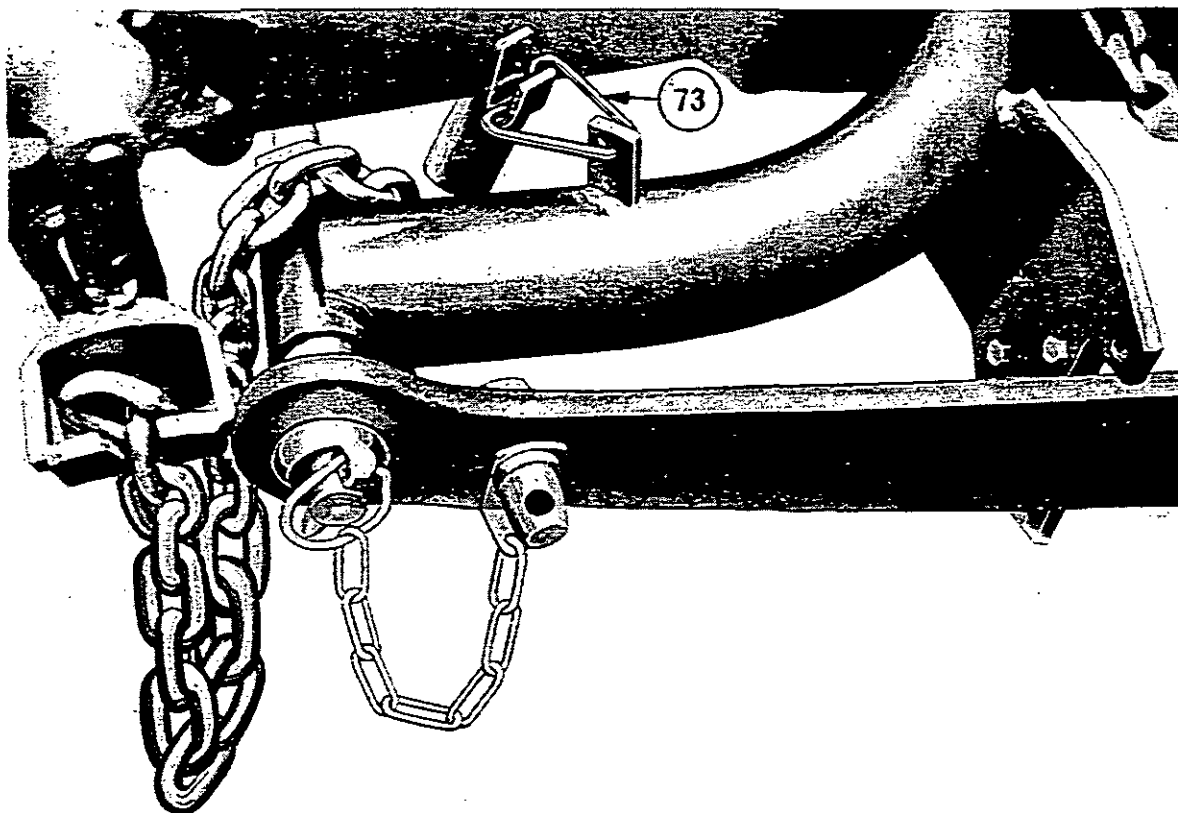

FIG. 34
Fig. 34. If a tractor fitted with the Pressure Control coupler is to be driven without an implement attached, the boom should be stowed by slewing it to the right and engaging the spring clip (73).